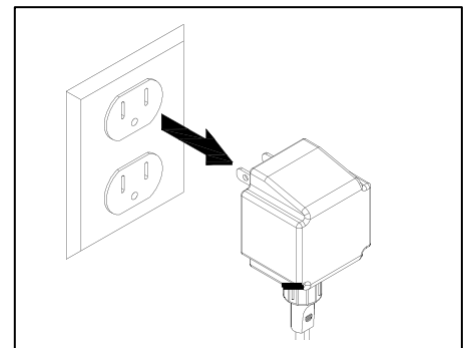

Fig. 11
1. Unplug the pump, and remove it from the container. Fig. 11